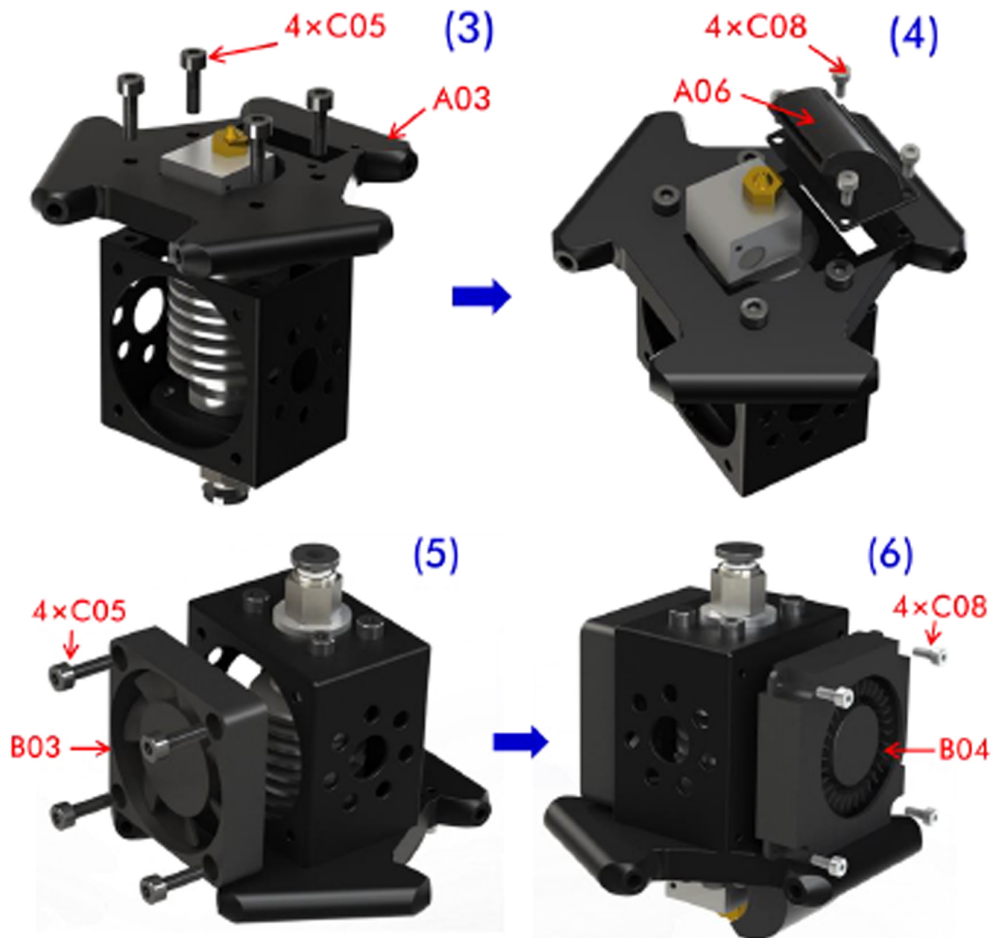

Fig. 8
Step 1. Before installation, detach the heat rod and thermistor from the hot end set. Then install the Hot End to the radiator cover (A05) by a horseshoe (A04), as shown in Fig 8. Leave the C06 screws untightened in order to adjust the hot end angle later if necessary.
Step 2. As shown in Fig. 8 (3) and (4), find the suitable angle to fix the Hot End into A03. Then fix the heat rod and thermistor back. After, use 4 pieces of C08 to fix the air nozzle (A06). Lastly, fix B03 and B04 (fans) to the correct side of the radiator cover.